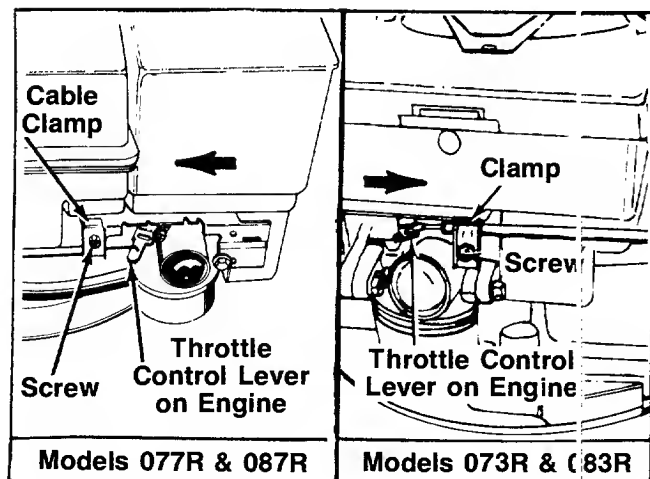

FIGURE 6B.—Tecumseh Engines
2. The throttle control cable is attached to the upper handle. Route the throttle control cable under the lower handle and inside the handle mounting bracket. Hook the "Z" end of the throttle control cable into the control lever on the engine as shown in figure 6B.
3. Loosen (do not remove) the screw on the cable clamp shown in figure 6B. Slip the control casing under the clamp (cable must move freely beneath the clamp).